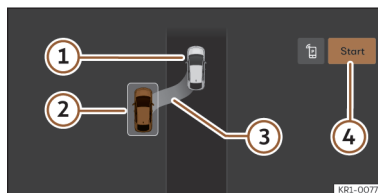
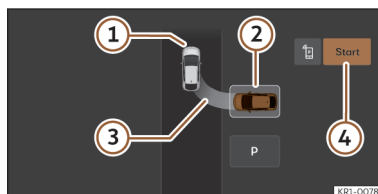

Fig. 137 On the infotainment system display: parallel parking position.
Fig. 138 On the infotainment system display: parking bay parking position.
>>> Fig. 137, >>> Fig. 138
- ① Your vehicle
- ② Parking space detected
- ③ Indication showing the proposed parking manoeuvre
- ④ Start parking manoeuvre
- Look at the display on the infotainment system's screen to see if the space has been detected as "appropriate" and if the correct position for parking has been reached >>> Fig. 137, >>> Fig. 138. Stop the vehicle and follow the instructions shown on the infotainment screen.
- Stop the vehicle, press the brake and, after a short pause, press the **Start** ④ button in the infotainment system.